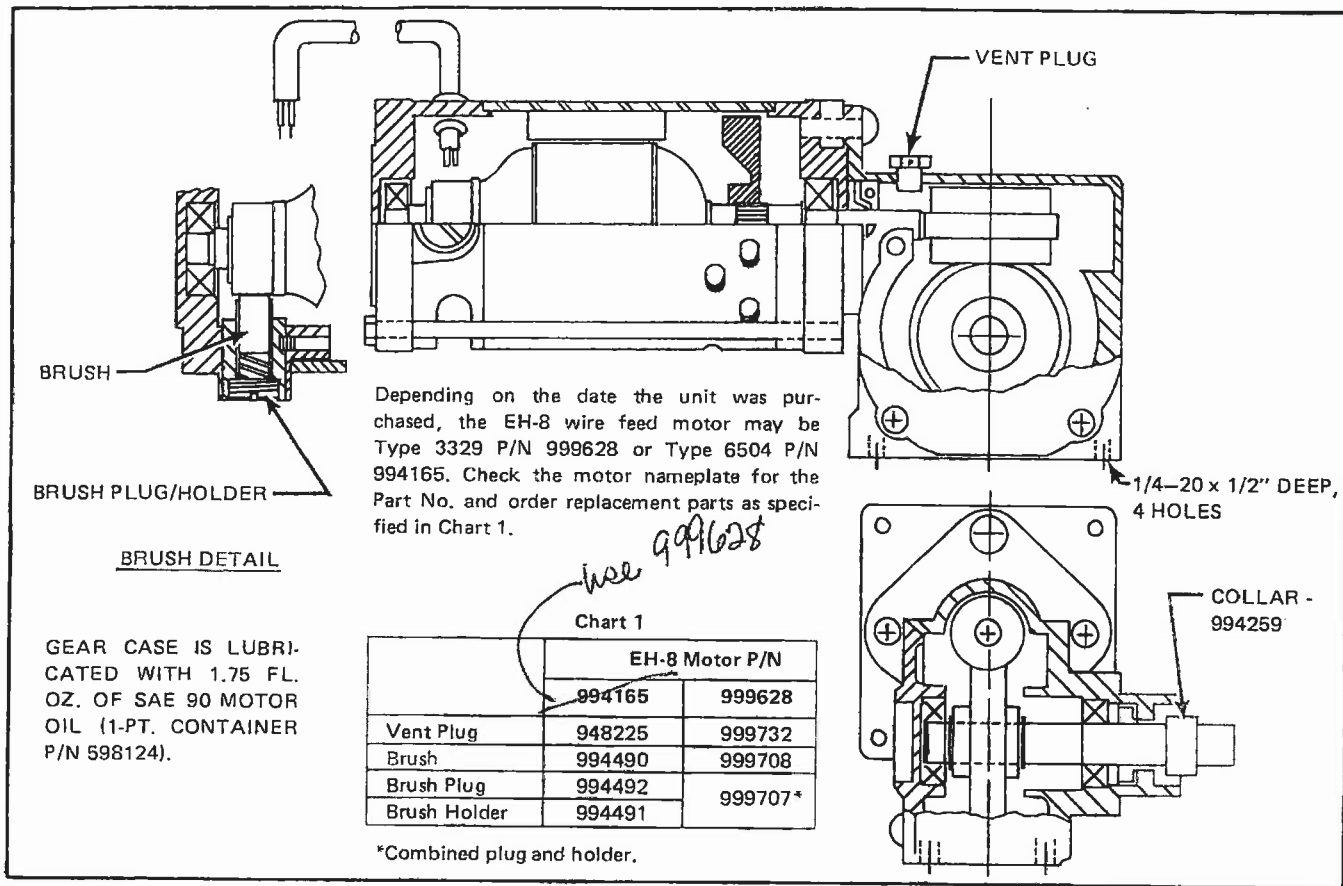

Fig. 14 - EH-8 Motor-Gear Unit Assembly, P/N 999628
C. CHECKING OR REPLACEMENT OF MOTOR BRUSHES (See Fig. 14)